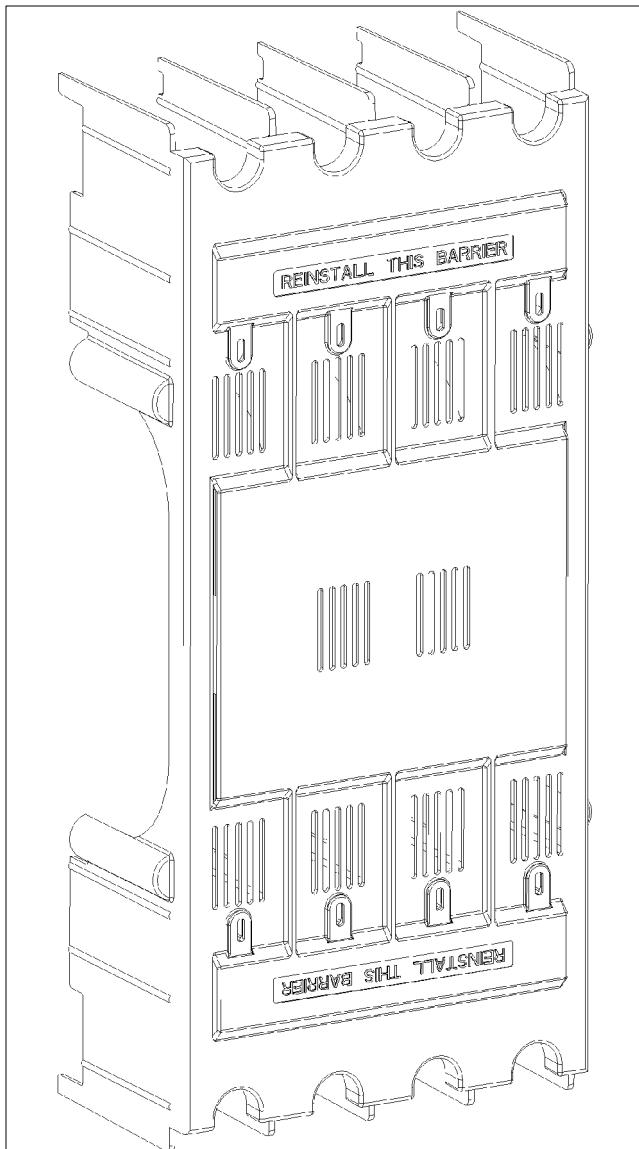

Figure 3-14. Barrier removal.
3. **Remove the barrier** (Figure 3-14).
Install the barrier over the arc chutes. Use a phillips screwdriver to tighten (cw) the four or six round-head screws to secure the barrier to the arc chute insulator nuts. See Figure 3-14.